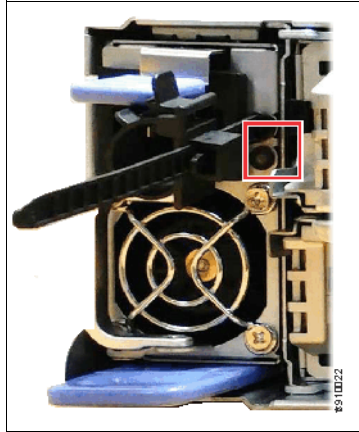

Figure 6-44 Control enclosure power supply unit rear view
3. Verify that the control enclosure powered on successfully by checking the LEDs on the power supply units in the rear of the control enclosure. Figure 6-44 shows the location of the power status LED on the rear of a power supply unit. The LED on each power supply will be illuminated green when the power supply is functioning properly.